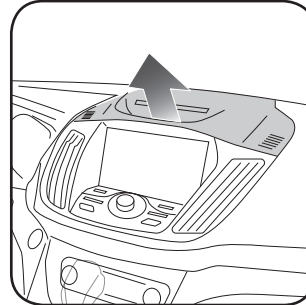

Fig. 1.1
1. Using a plastic pry tool, remove the upper trim by pulling upward. (Fig. 1.1)